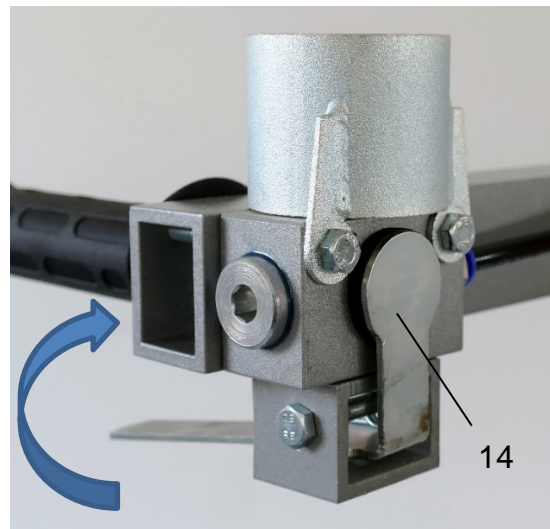
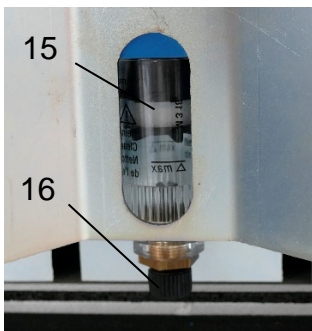
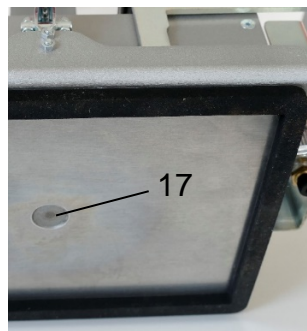
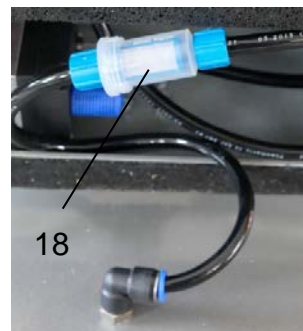

Fig. 7
Fig. 8
Fig. 9
Fig. 10
- Set down plate after transport, open valve (14) and take off Levator (Fig. 7).
- Once the equipment is no longer needed, switch it off (11).
- Swing resting feet (7) downwards to protect the seals.
Prior to every operation:	Visual and function inspection: <ul style="list-style-type: none"> <li>- Check condition of seal.</li> <li>- Check output of rechargeable batteries.</li> <li>- Check equipment for distortions and damage.</li> <li>- Drain off water in water trap (15) by turning the screw (16). Close screw again (16) (Fig. 8).</li> <li>- Clean coarse filter (17) with a brush (Fig. 9).</li> </ul>
Monthly:	<ul style="list-style-type: none"> <li>- Disassemble suction plate and clean air filter (18) (Fig. 10).</li> <li>- Check seals and hose connections.</li> </ul>
Prior to every operation:	Visual and function inspection: <ul style="list-style-type: none"> <li>- Check condition of seal.</li> <li>- Check output of rechargeable batteries.</li> <li>- Check equipment for distortions and damage.</li> <li>- Drain off water in water trap (15) by turning the screw (16). Close screw (16) again (Fig. 8).</li> <li>- Clean coarse filter (17) with a brush (Fig. 9).</li> </ul>
Vacuum pump has little power.	<ul style="list-style-type: none"> <li>- Check valve (14) (Fig. 7).</li> <li>- Charge rechargeable battery.</li> <li>- Clean water trap (15) (Fig. 8).</li> <li>- Clean coarse filter (17) (Fig. 9).</li> <li>- Clean fine filter (18) (Fig. 10).</li> <li>- Check cable connections for breakages and leaks.</li> </ul>